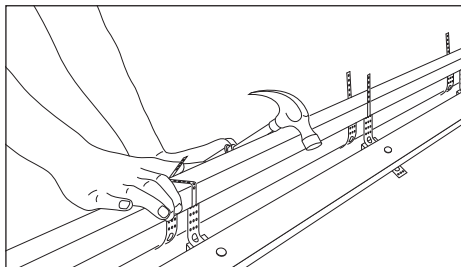

Fig. 3
- 3 Place the ridge batten(s) along length of ridge between the perforated straps of ridge batten brackets. Bend over the straps and nail each securely to the ridge batten using the nails supplied. Joints in ridge batten should be made half way across a ridge batten bracket to ensure the ends are secured (Fig. 3).